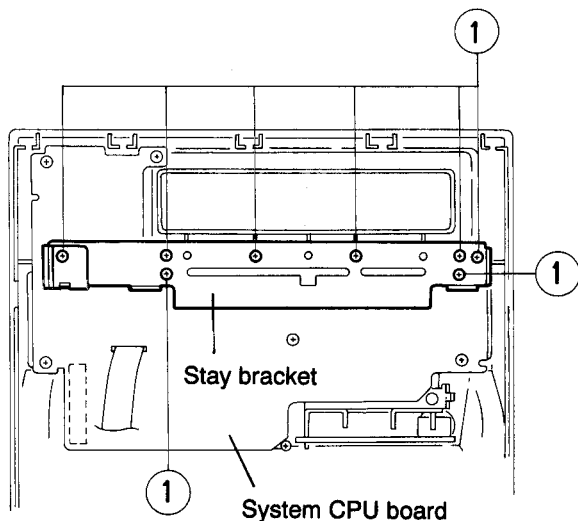

Fig.5-21
6. Remove the eight screws ① fastening the stay bracket inside the front panel assembly.(See Fig. 5-21)